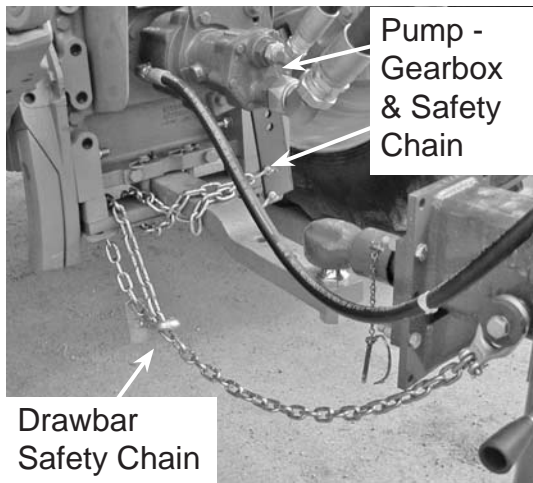

Figure 5 - Connect Hitch, Pump-Gearbox and Safety Chains
4. Connect hitch to tractor ball and drawbar safety chain to tractor. Connect the pump - gearbox and safety chain (see figure 5)